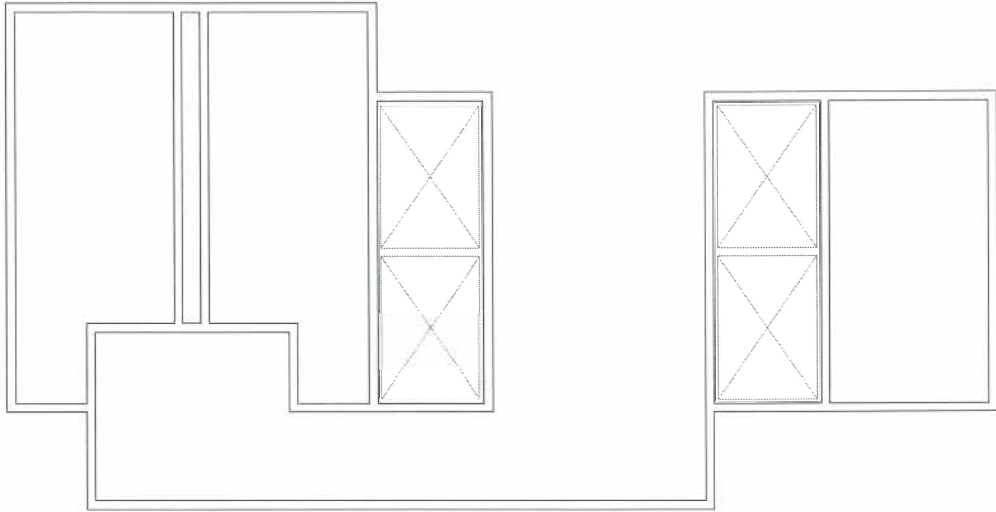

Figure 12–16
7. Use **Trim**, **Extend**, and **Fillet** (with a radius of **0**) as required to clean up the intersections of the walls at the core of the building, as shown in Figure 12–16.
9. Use **Mirror** to create the other three elevators. They are centered in the middle of the 3700 wide space, as shown in Figure 12–16.